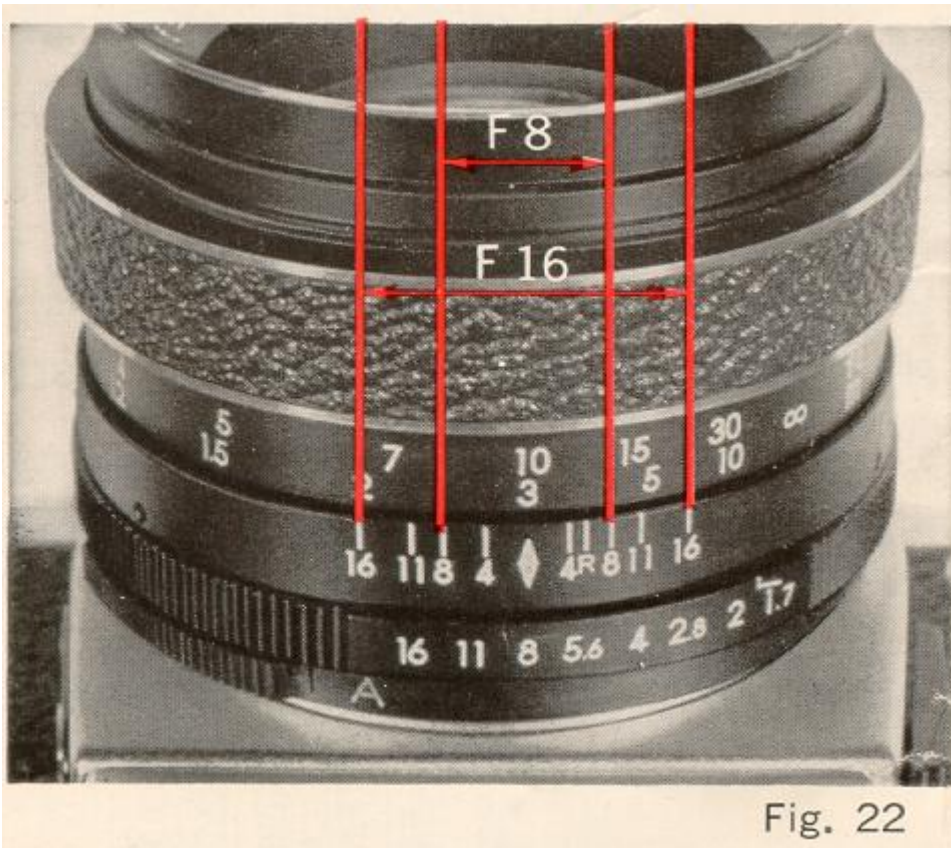

Fig. 22
(B) Depth of Field Scale (Fig. 22)